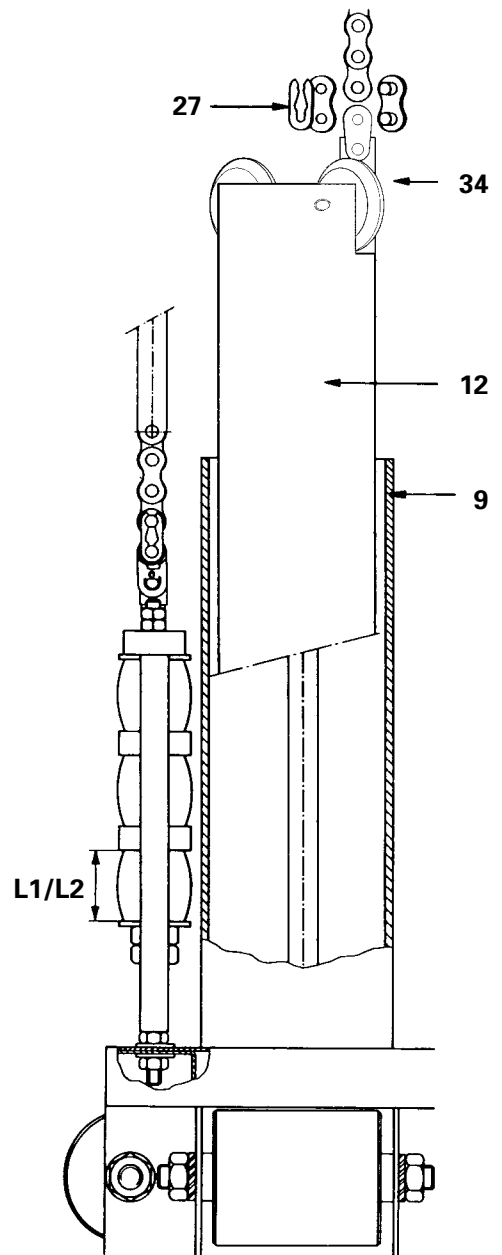

Figure 7
6. Release the connecting link (**27** - Fig. 7) of the chains (**10/10a**) from the counterweight (**12**), see page 11.
6. Remove the counterweight (**12** - Fig. 7) from the column (**9** - Fig.7).
8. Slide the counterweight (**12** - Fig. 7) into the column.